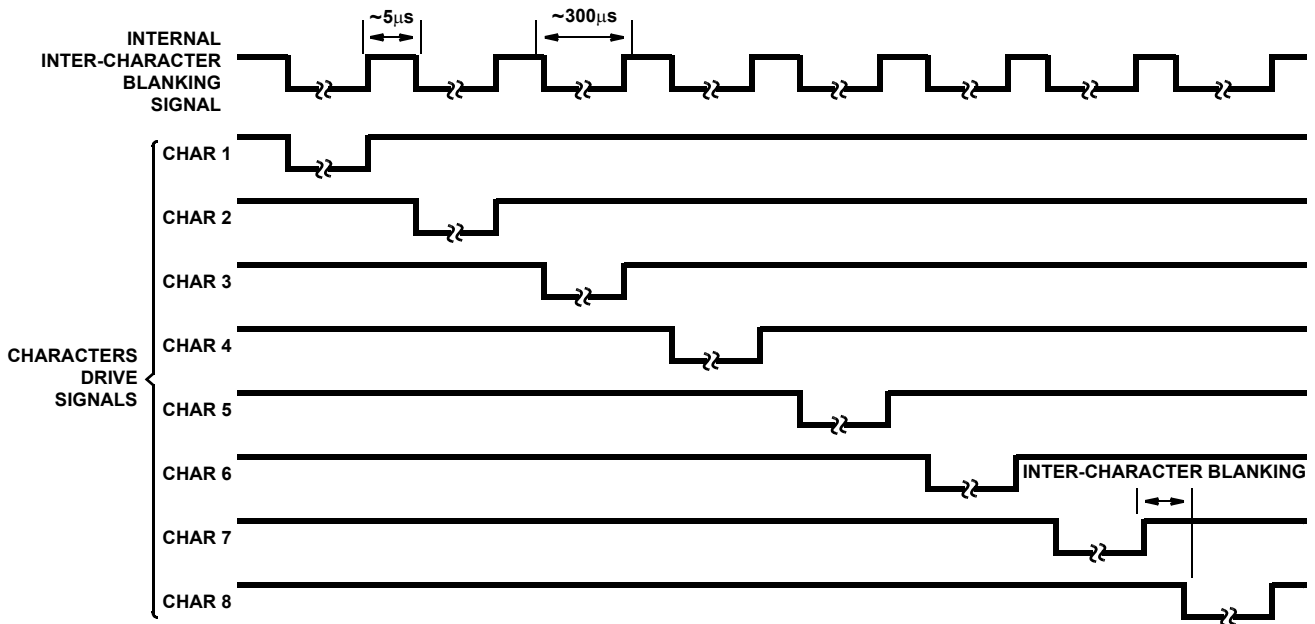

FIGURE 3. DISPLAY CHARACTERS MULTIPLEX TIMING DIAGRAM
**OSC/OFF** - The device includes a relaxation oscillator with an internal capacitor and a nominal frequency of 200kHz. By adding external capacitance to  $V_{DD}$  at the OSC/OFF pin, this frequency can be reduced as far as desired. Alternatively, an external signal can be injected on this pin. The oscillator (or external) frequency is pre-divided by 64, and then further divided by 8 in the Multiplex Counter, to drive the CHARACTER drive lines (see Figure 3). An inter-character blanking signal is derived from the pre-divider. An additional comparator on the OSC/OFF input detects a level lower than the relaxation oscillator's range, and blanks the display, disables the DISPLAY FULL output (if active), and clears the pre-divider and Multiplex Counter. This puts the circuit in a low-power-dissipation mode in which all outputs are effectively open circuits, except for parasitic diodes to the supply lines. Thus a display connected to the output may be driven by another circuit (including another ICM7243) without driver conflicts.